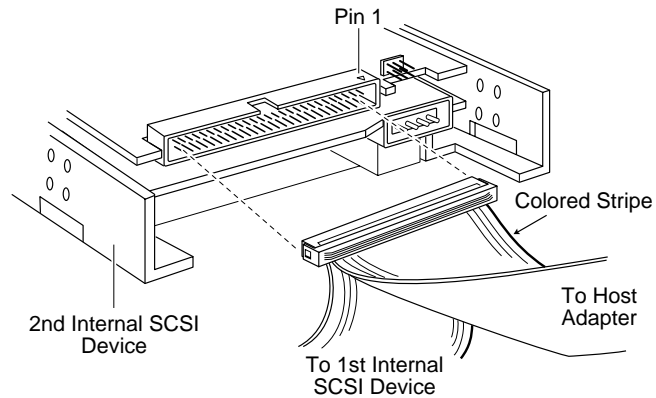

Figure 2-7. Connecting a Second Internal SCSI Device
- 3 To connect a second internal SCSI device, plug the middle connector of the SCSI ribbon cable into the SCSI connector on the second internal SCSI device, as shown in Figure 2-7.